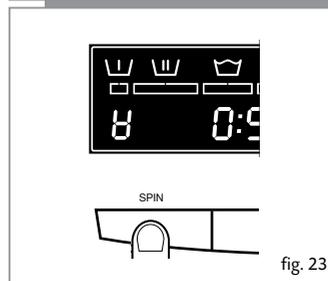

fig. 23
- Pressing the spin button again will select the anti-crease option (Figure 23).